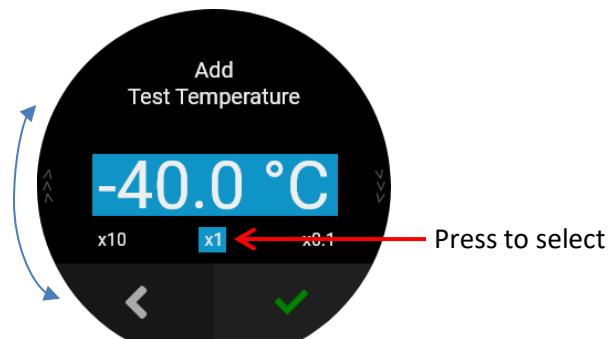

Figure 39: Add Test Temperature Screen with Ones Digit Selected
30. Continue by selecting the ones digit icon **x1** and rotating to desired temperature. See Figure 39.